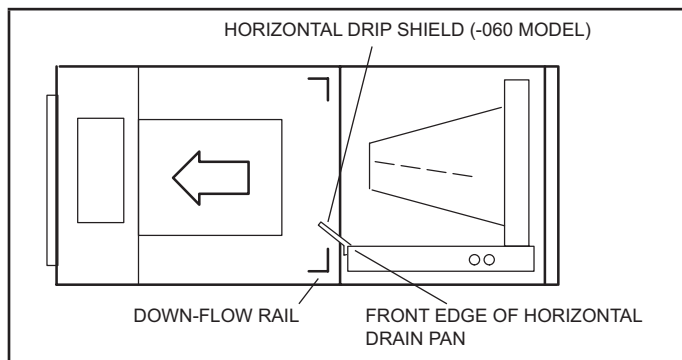

FIGURE 12. Left-Hand Discharge Configuration
- 8 - Install the horizontal shield (-060 model) on the front edge of the horizontal drain pan as illustrated in figure 12.